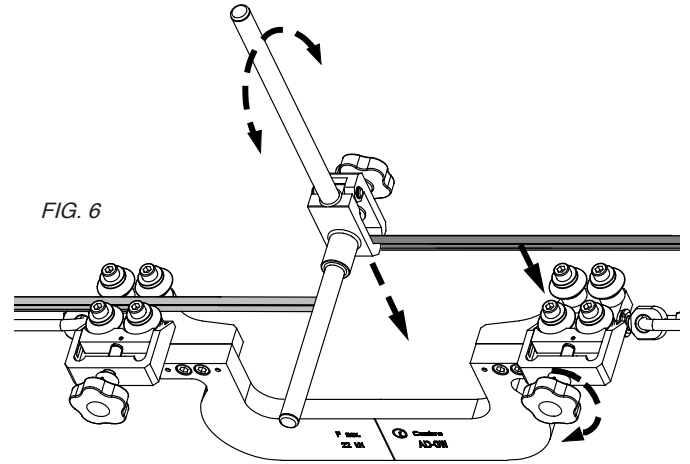

FIG. 6
- 5** (Ref. fig. 6) Use the **HC-GW** adjusting device to correctly align the grooves of the new contact wire in the guide wheels (Ref. fig. 2) on the Tirfor side of the device, then tighten the knob on this side.